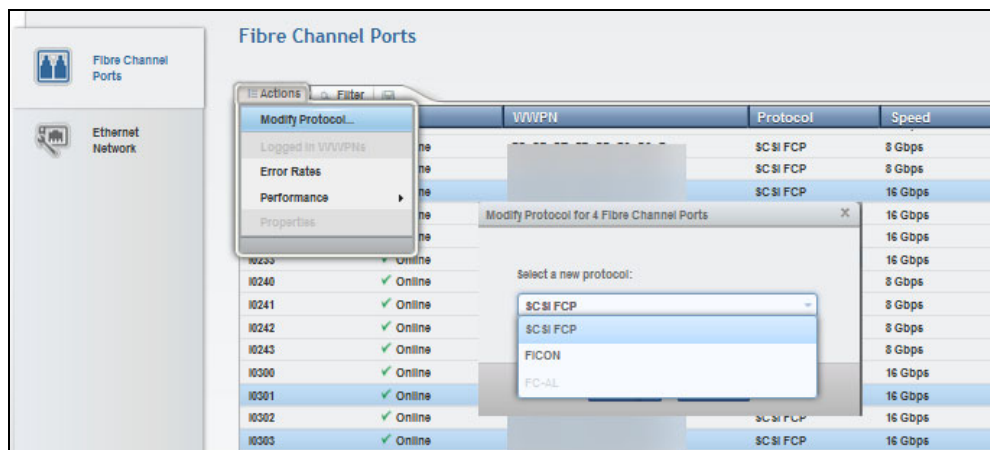

Figure 11-63 Modify Fibre Channel Port: Select a new protocol: Single or multiple 16 and 8 Gbps ports
3. From the Actions tab, click **Modify Protocol** to open the Modify Protocol window, as shown in Figure 11-63 on page 326.